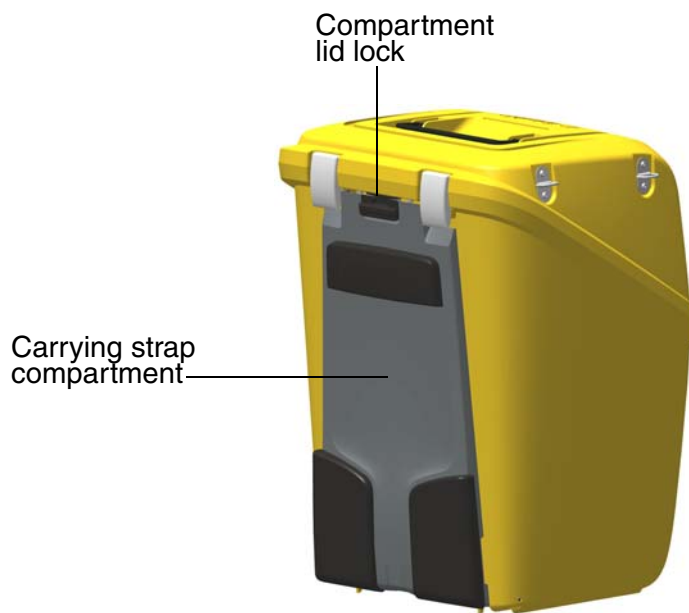

Figure 2.2 Instrument case with the carrying straps inside the compartment
1. Press the compartment lid lock downward and open the carrying strap compartment. See Figure 2.2